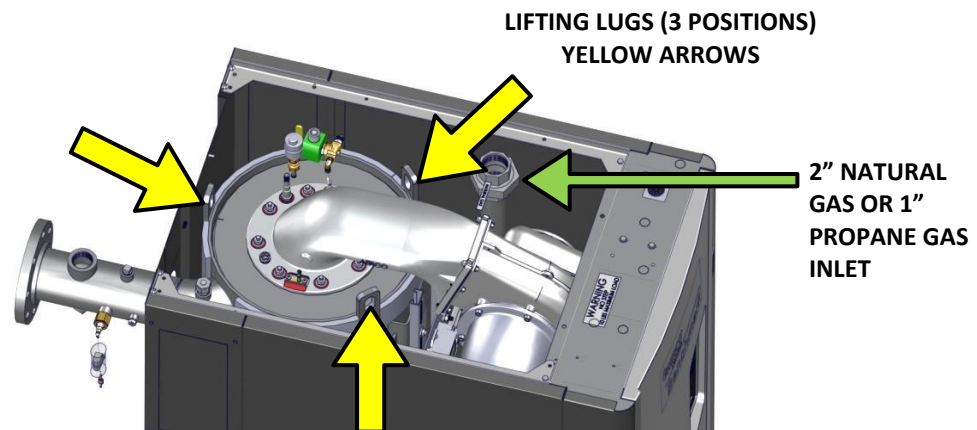

Figure 2-4b: Boiler Lifting Provisions – BMK1500/2000 Shown
Three lifting lugs are provided at the top of the primary heat exchanger as shown in Figure 2-4b. Remove the front top panel from the unit to provide access to the lifting lugs. Remove the four (4) lag screws securing the unit to the shipping skid. Lift the unit off the shipping skid and position it on the 4 inch to 8-inch (10.2 cm to 20.3 cm) housekeeping concrete pad (required) in the desired location.